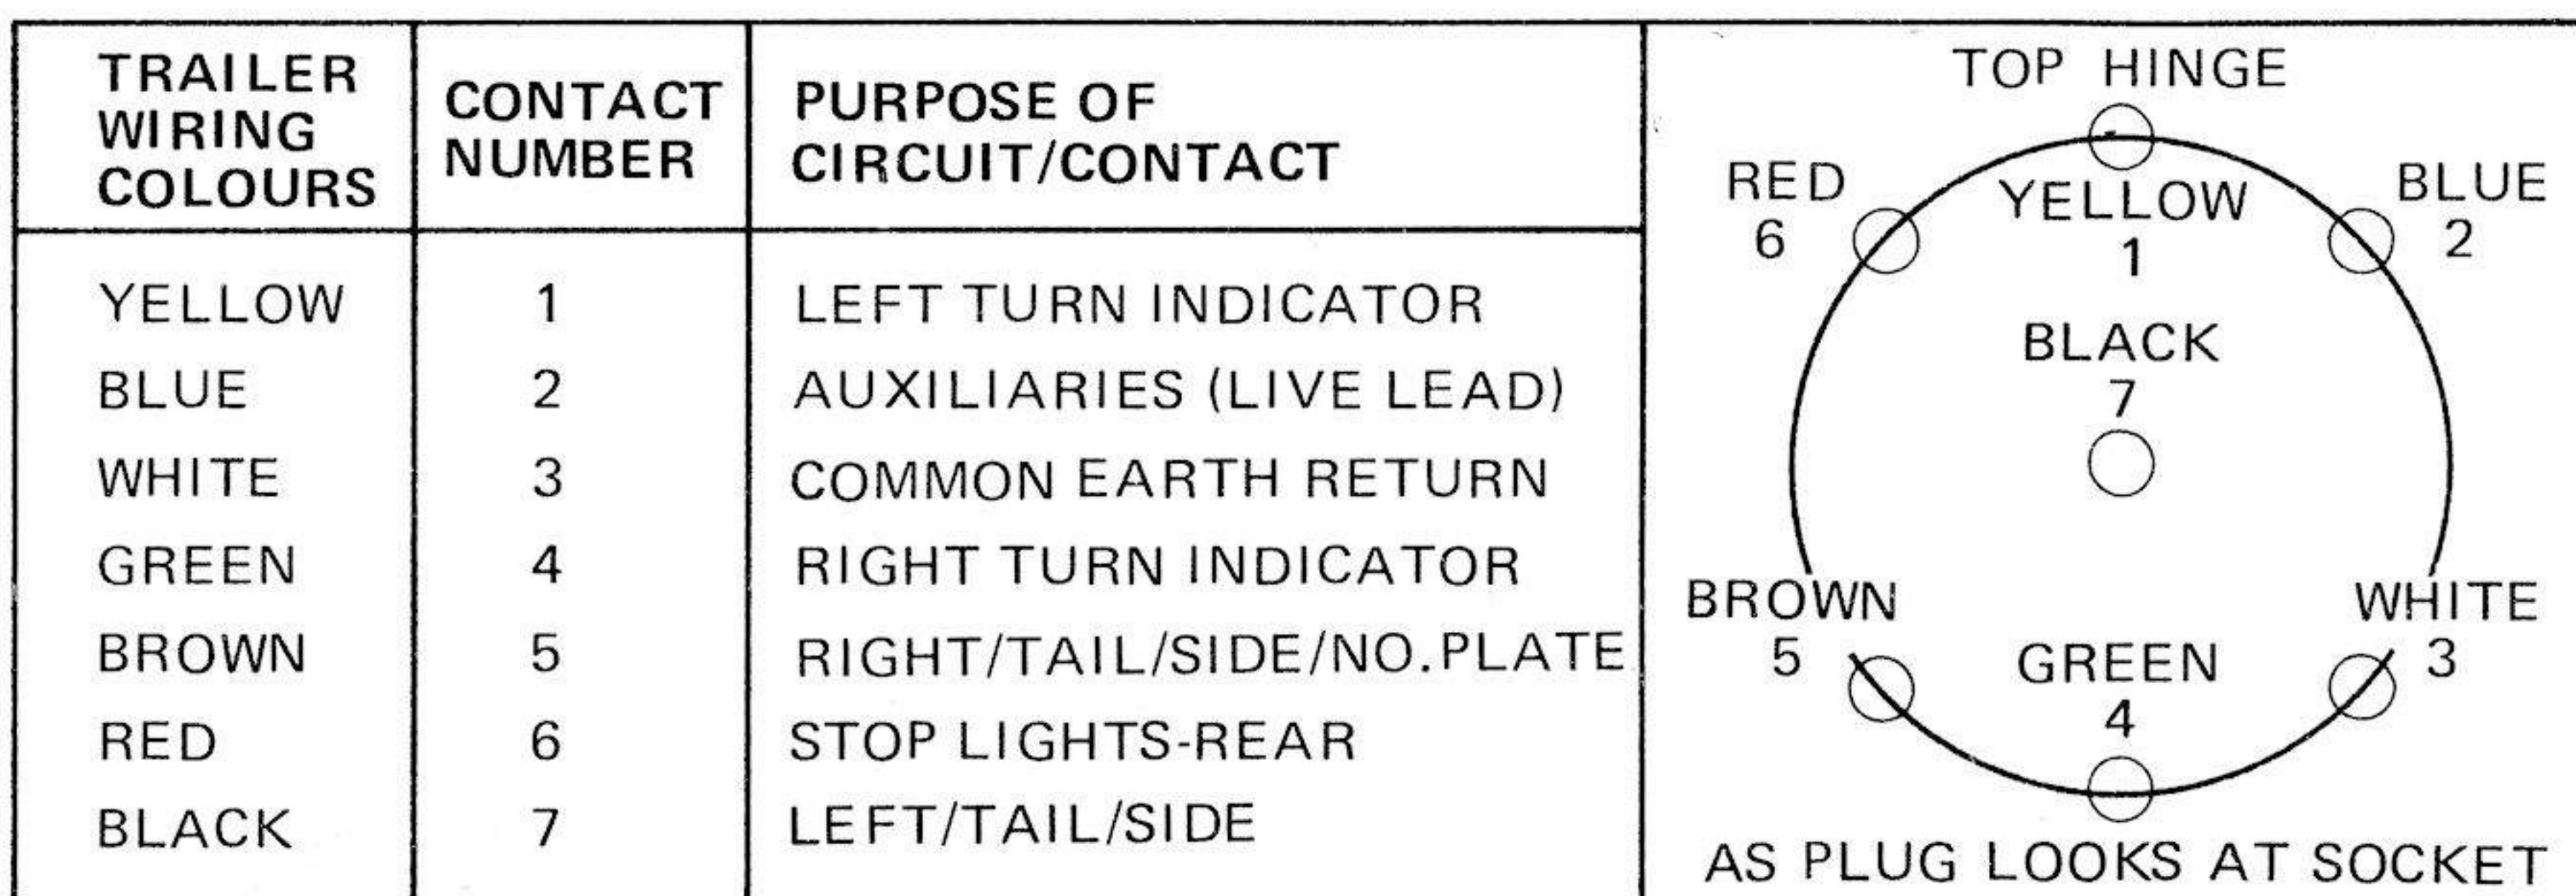

FIG. 1
**Lighting Circuits:** Our standard lighting arrangements are in conformity with I.S.O. recommendations and use 7 pin plugs and sockets, wired as in Fig. 1 below.